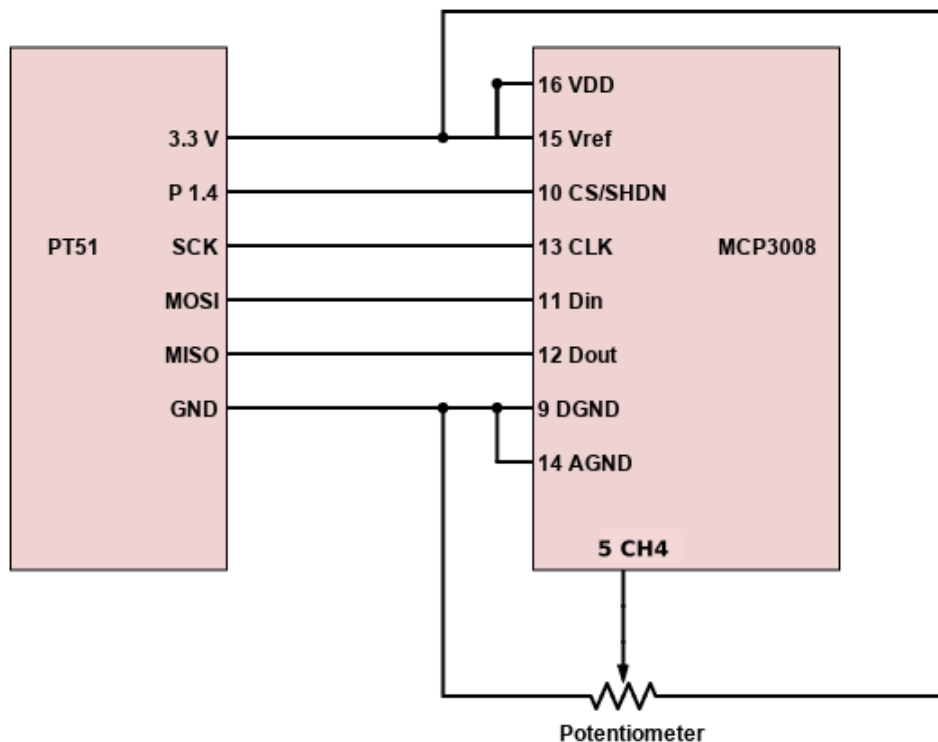

Figure 1: Pt51 interfacing with Potentiometer and ADC
- ii) Test the ADC setup using a potential divider circuit (series of resistors provided in the kit can be connected between supply and ground terminals) as shown in Figure 1. By varying the point at which the output is taken, voltages ranging from 0 to 3.3 V can be obtained as output.